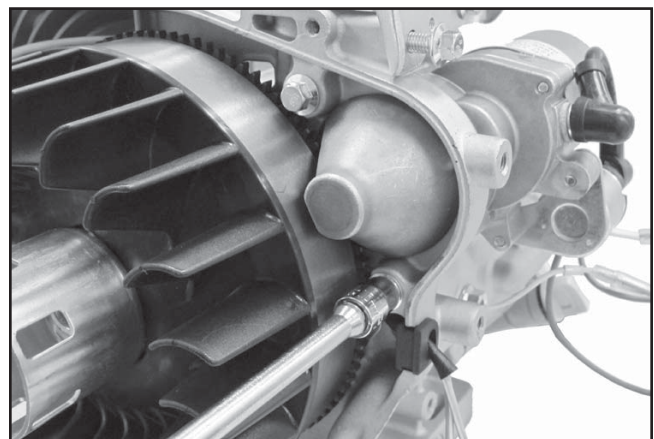

Figure 11-67. Align and Mount Starter.
1. Align and mount the electric starter onto the crankcase. Install and torque the two hex flange screws to 24 N·m (212 in. lb.). See Figure 11-67.